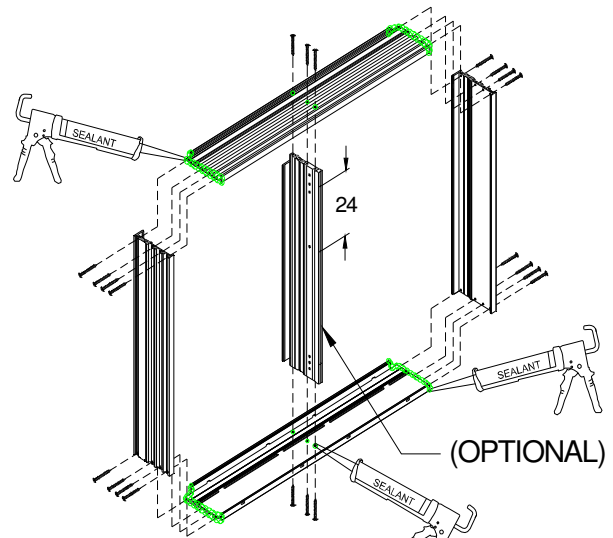

Figure 6:
1. Apply a compatible sealant to the corners of the frame. Assemble the frame with screws provided (Figure 6).
3. After the frame is assembled, seal inside of all four corners and above the thermal break (Figure 6) with a thin bead of self leveling compatible sealant.
1. Correct orientation for vertical TDL's is to have anchor mounting screws at 24" spacing (Figure 6).
2. Install each full length (vertical or horizontal) TDL bar, using #10 X 1" PHP into pre-drilled holes (Figure 6).